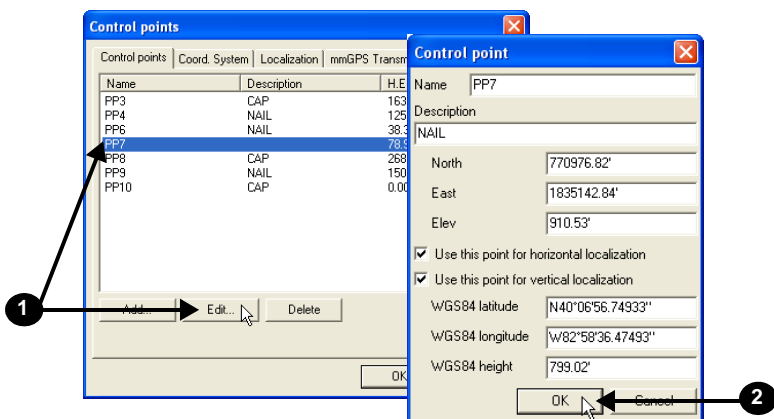

Figure 9-13. Edit Control Point
1. Click **Project ► Control points**, click the control point to edit, and click **Edit** (Figure 9-13 on page 9-12).
2. Edit the desired information and click **OK** (Figure 9-13 on page 9-12).